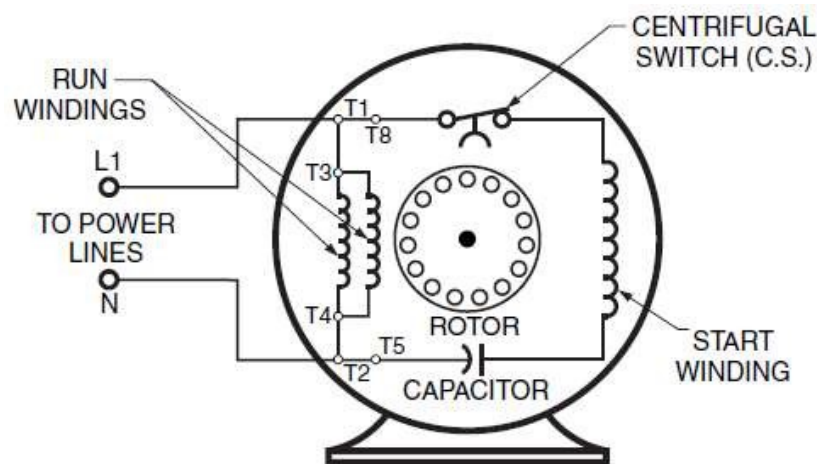

Figure 5: A capacitor-start motor electrical connections diagram
5. Wire the motor windings together in capacitor-start configuration as shown in Figure 5.